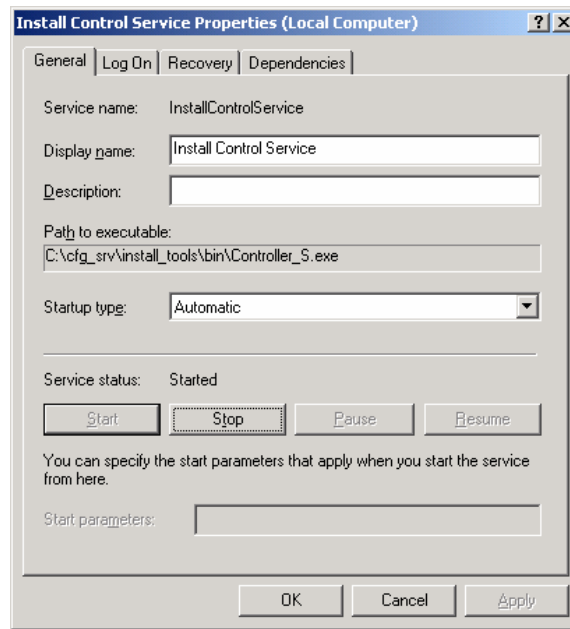

Figure 1-242. Install Control Service Started Status
11. The screen in Figure 1-242 is displayed again with the 'Start' button now grayed-out. Click **OK** to dismiss the window.